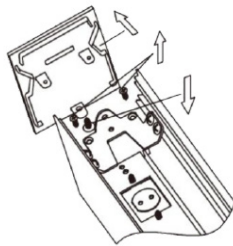

Fig. 11
1. Remove lens and LED reflector strip (see *Surface Mount instructions*). Loosen the screws to remove end cap. (Fig. 11)